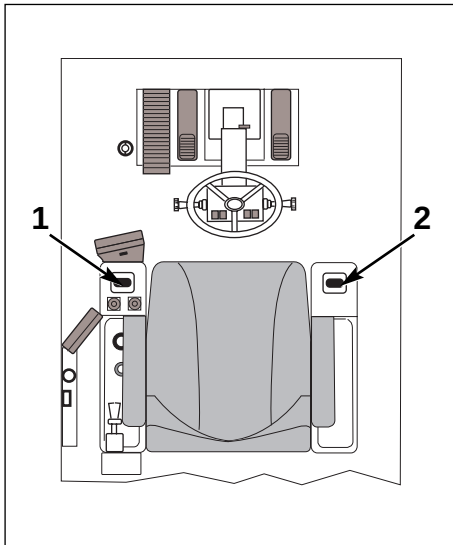

Fig. 4
- Lower the equipment to the ground using the control manipulators (1 and 2 fig. 4).
- Put the equipment in the “boom ram vertical” position (2 fig. 4) and (fig. 6).
Note: If necessary, correct the machine's balance by adjusting the inclination of the boom ram (2 fig. 4).